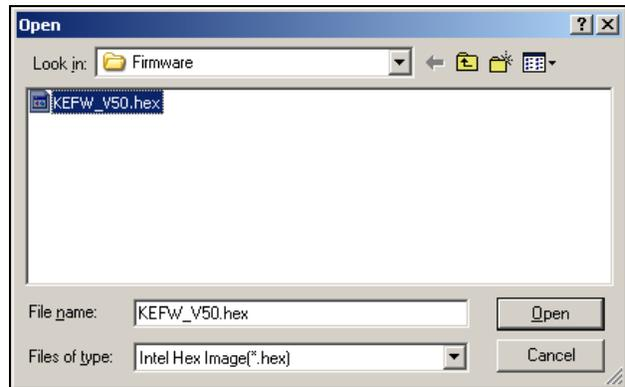

Figure 194: Select firmware file
3. Type the name of the firmware file or select the *Browse* button to locate the file. See Figure 194.